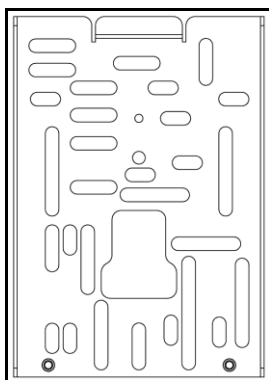

Figure 3- Universal Wall Bracket
2. Adjust the wall bracket against the old thermostat position, such that any two slots on the wall bracket match the existing two holes on the wall. The universal wall bracket is as shown in figure 3.